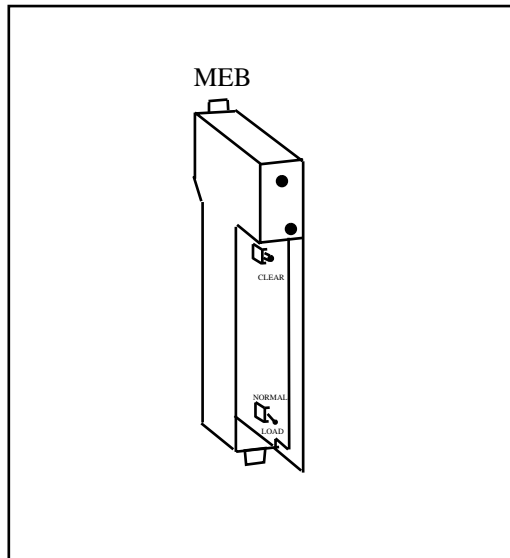

Figure 20-18 MEB Firmware Load Switch
- 3 Locate the Load/Normal toggle switch on the back of the MEB. (See Figure 20-18) Move this switch to the LOAD position.